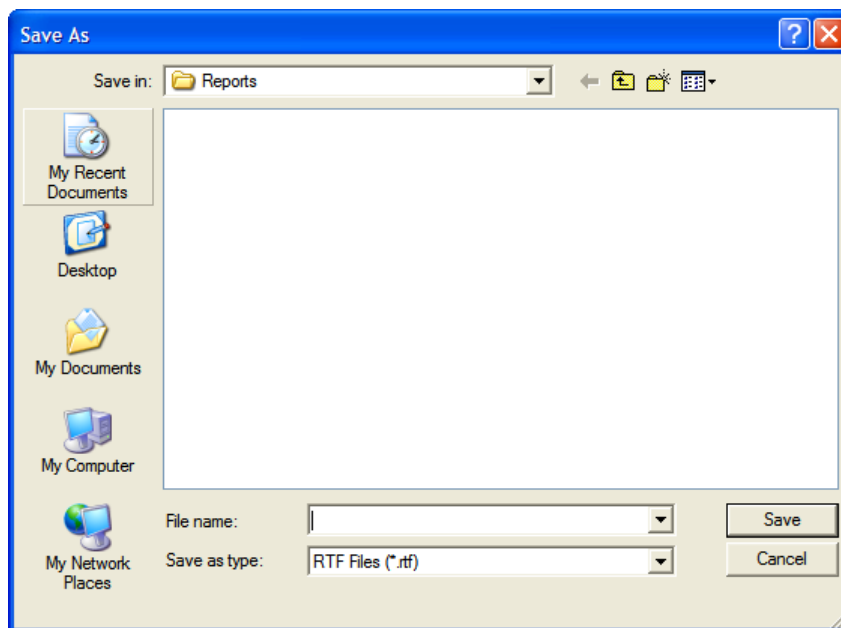

Figure 7-35
8. To save the displayed report or summary, click the **Save to File** button or press *Alt+S*. The Save As box appears as shown in Figure 7-35. Reports are saved as an RTF file in the Reports folder by default.